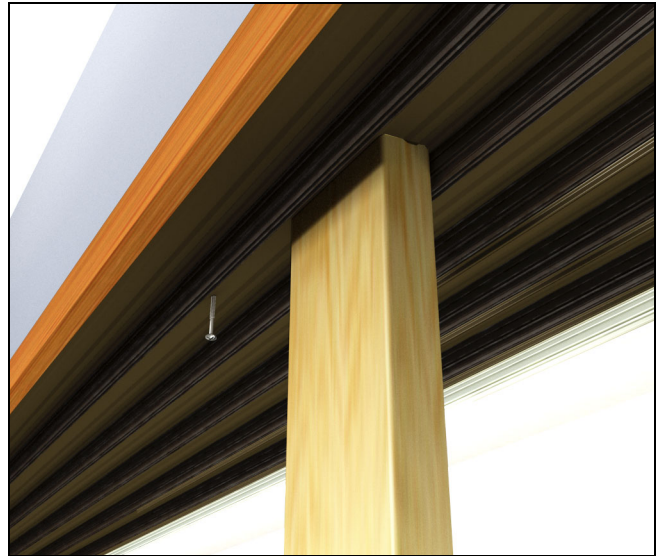

Figure 19
5. If necessary, shim head jamb so that the story pole stays in light contact with the sill and head jamb frame. Fasten with #8 x 3" black installation screws. See Figure 19.